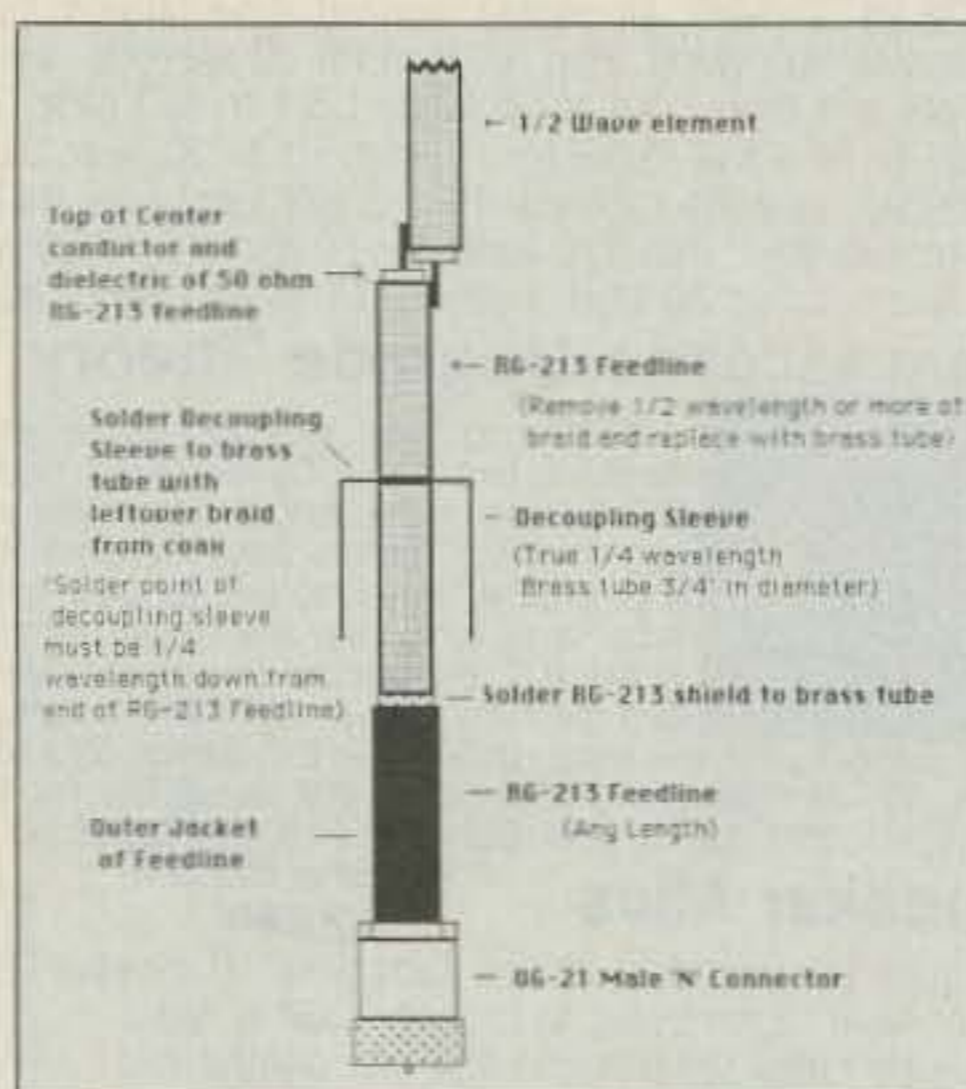

Figure 4. Feedline attachment and decoupling sleeve.
Step 9. Next, make a true 1/4-wave (no velocity factor correction) long decoupling sleeve out of a 3/4" diameter brass tube. Using some of the excess shield material, solder the decoupling sleeve to the feedline outer conductor at a point exactly 1/4-wavelength down from the point where the feedline attaches to the antenna. See Figure 4.